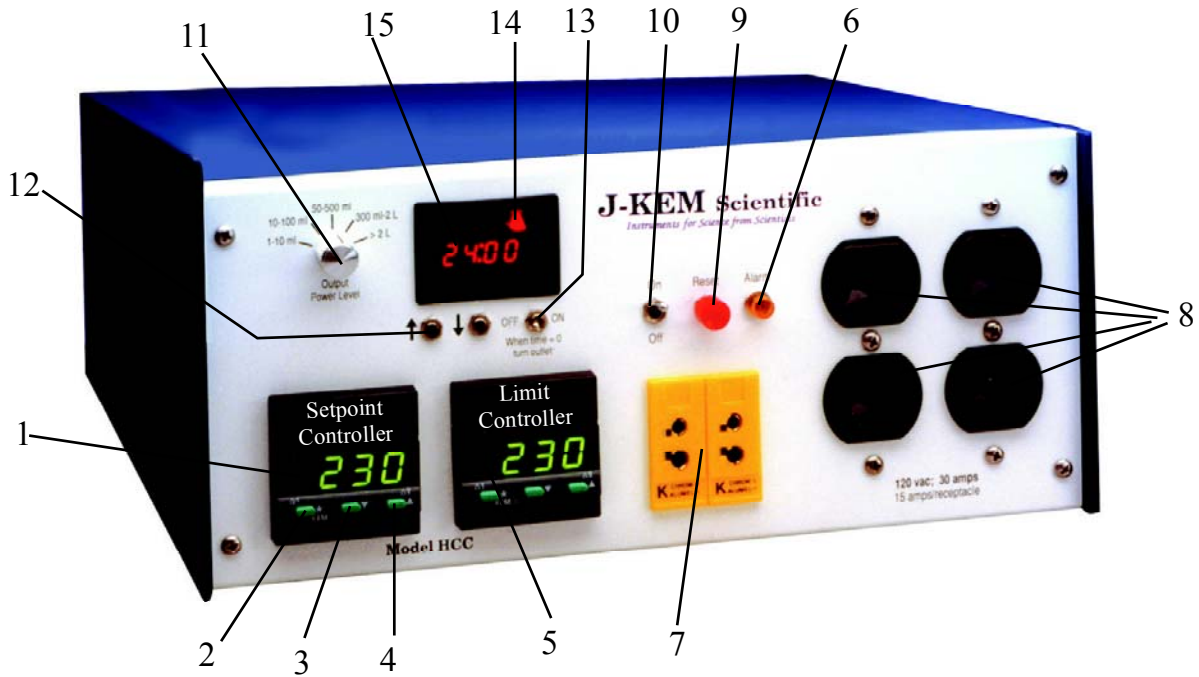

Figure 1
3.6 Temperature Sensor Input. Each controller is fitted with a specific *type* of temperature sensor input and can only be used with a temperature sensor of the same type (thermocouple or RTD). For the correct temperature to be displayed, the thermocouple type must match the receptacle type on the front of the controller (Figure 1; #7). All thermocouples are color coded to show their type (Blue = type T; Yellow = type K; Black = type J). The color of the thermocouple plug must match the color of the receptacle on the front of the controller.